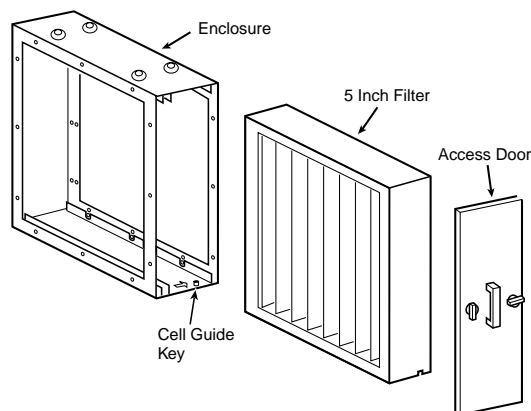

Fig 2. Filter Enclosure with 5" Media Filter
6. On side return furnace applications, the air cleaner may be installed on either side of the cabinet. See Figure 2. Position the pre-filter on the side away from the furnace. The cell guide key, installed in the cabinet will only allow the cells to be installed in the proper direction. Air flow direction must agree with air flow arrows on the cabinet.